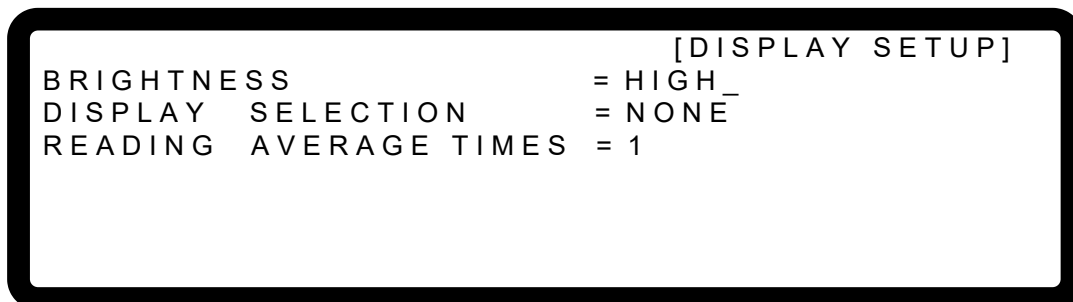

Figure 3-54
1. Use “”, “”, “”, “” keys to move the cursor to the column to be set as Figure 3-54 shows.